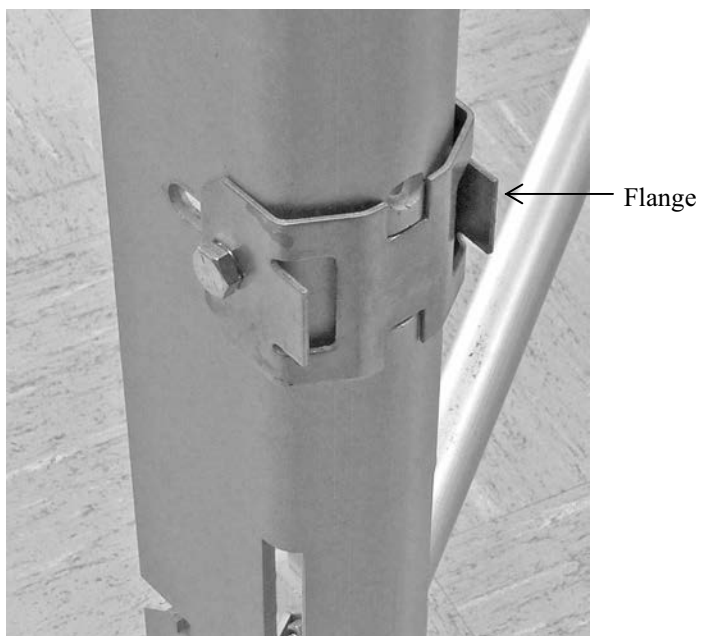

FIGURE 4-7. The 19124 bracket attached to a CM110 tripod.
An enclosure ordered with this option will be shipped with a bracket attached to each side of the enclosure and a u-bolt bracket. A 19124 bracket must also be attached to some tripods (see Figure 4-7).
NOTE For tripods requiring 19124 bracket, the bracket may not be pre-installed on the tripod at the factory. In this situation, the 19124 bracket and mounting hardware will be shipped with the tripod and will need to be installed as shown in Figure 4-7.
2. Place the flange of the tripod’s bracket into a notch in one of the enclosure’s brackets (see Figures 4-7, 4-8, and 4-10).